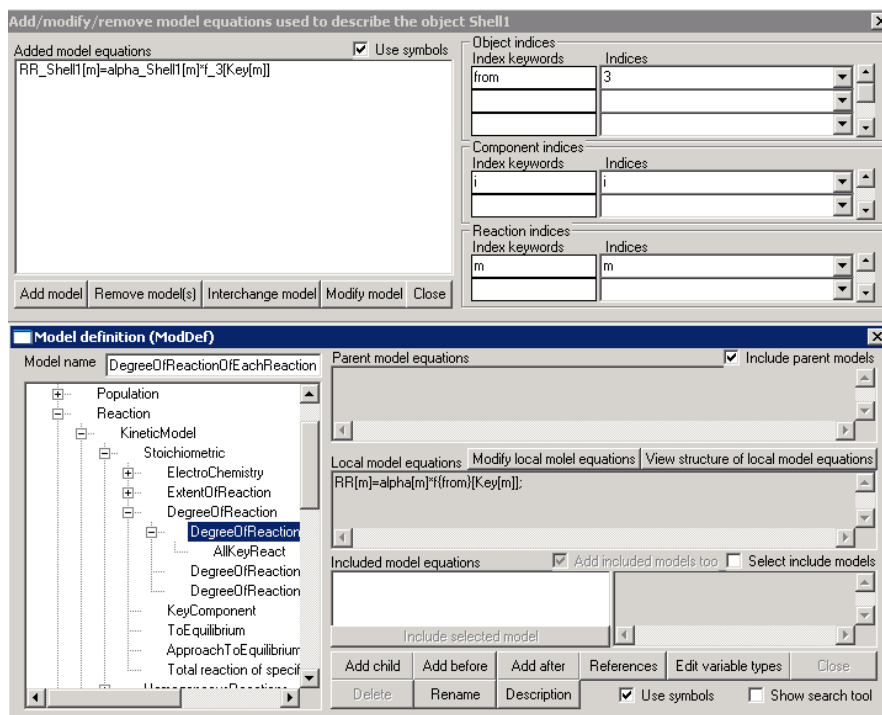

Figure 30: Definition of degree of reaction.
Step2: Define equation for degree of reaction - Exit from the “reaction” definition tool and click on “other models”. This will open the “add/delete models” tool. Follow the path “Rootmodel” -> “Reaction” -> “KineticModel” -> “Stoichiometric” -> “DegreeOfReaction” -> “DegreeOfReactionOfEveryReaction” (as shown in figure 30) to choose the degree of reaction equation. Note that before clicking on “add model”, the “from” index should be set to 3 indicating the component flow from stream 3.